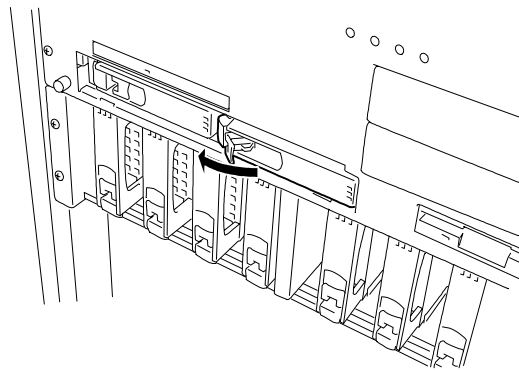

Figure 4-59. Removing a Hard Disk Drive
5. Grasp the handle of the hard disk's carrier and unlock the lever located at the bottom of the carrier handle, see Figure 4-59. The hard disk carrier will come out approximately 1/2-inch so that its handle is fully accessible in order to pull the carrier the rest of the way out of the bay.
4. Grasp the handle of the hard disk’s carrier and unlock the lever located at the bottom of the carrier handle, see Figure 4-59. Pull the faulty drive out of the bay far enough to disengage the drive connector from the backplane. Wait 30 seconds until the drive spins down, then remove the drive from the bay.